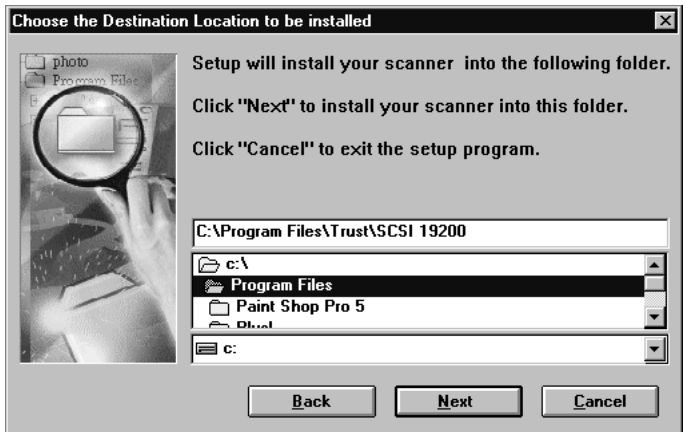

Figure 18: Determining the installation directory
Windows NT: Figure 18 will pop up. Continue with step 7.
7. The window that pops up contains 'welcome' information. Click on 'Next' to continue. Figure 18 will pop up.